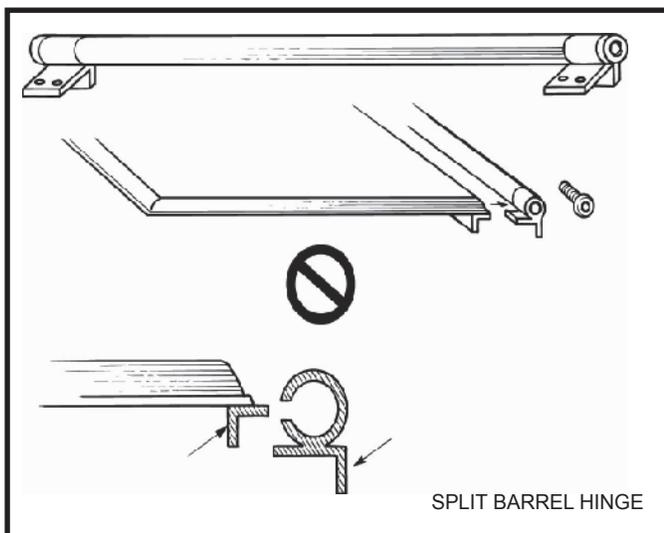

fig. 5
1. We begin the tonneau cover system installation by removing the manual lock assembly. We suggest that you store the lock in the tailgate next to the striker bolt, in case you ever want to remove the system. **NOTE! IF YOUR TRUCK HAS A SPLIT BARREL TYPE HINGE (THE TONNEAU SLIDES OUT OF THE HINGE) USED BY LEAR AND MANY OTHER MANUFACTURERS (see fig. 5 & 7). YOU WILL NEED TO ORDER BRACKET KIT NO. 98153. THIS BRACKET MUST BE INSTALLED ON SPLIT BARREL HINGED TONNEAUS.**